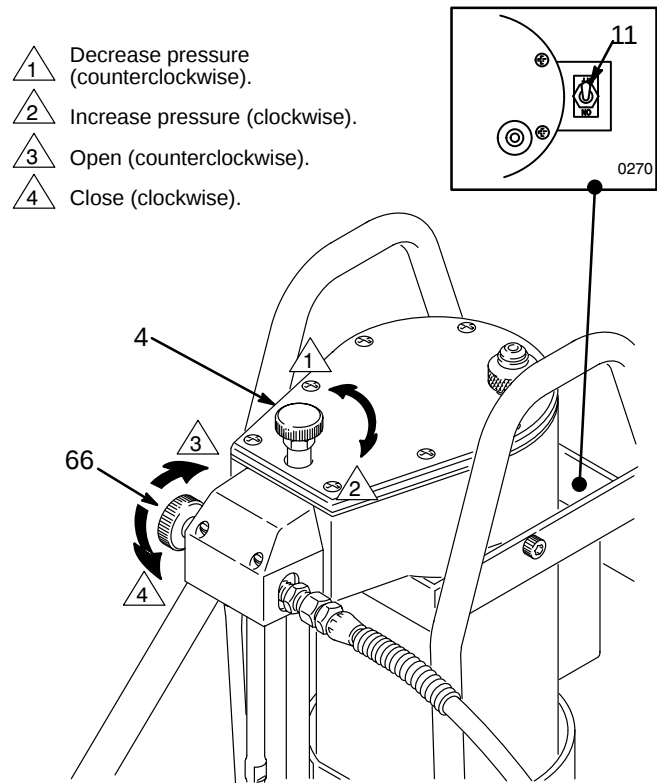

Fig. 7
1. Shut off the sprayer. Lock the gun trigger safety lever. Open the bypass valve (66) ONE turn **counter-clockwise**. Raise the paint pump just above the paint and turn on the sprayer to drain the paint. Now turn off the sprayer. See Fig. 7.